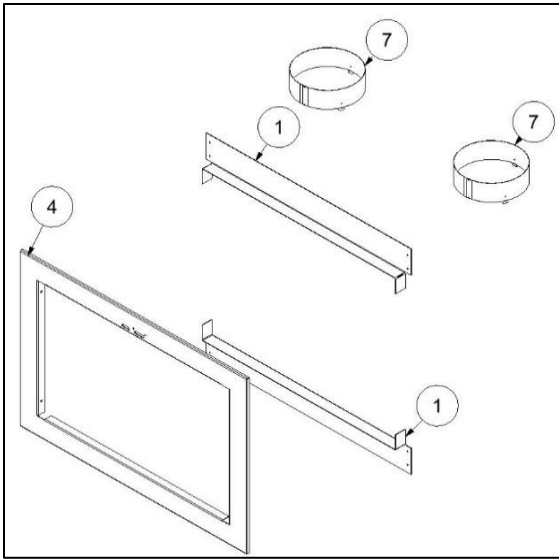
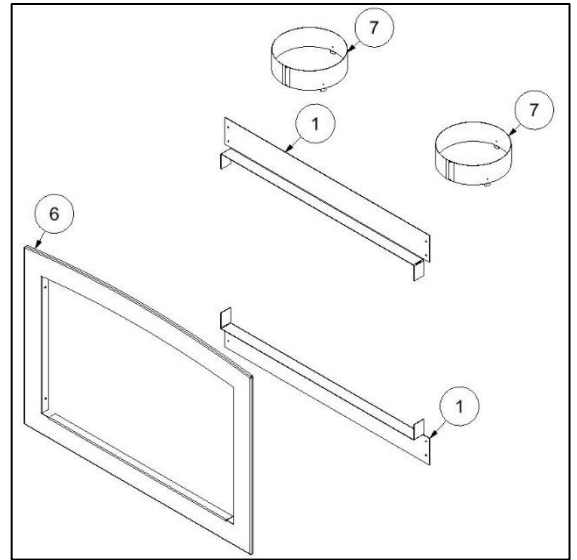
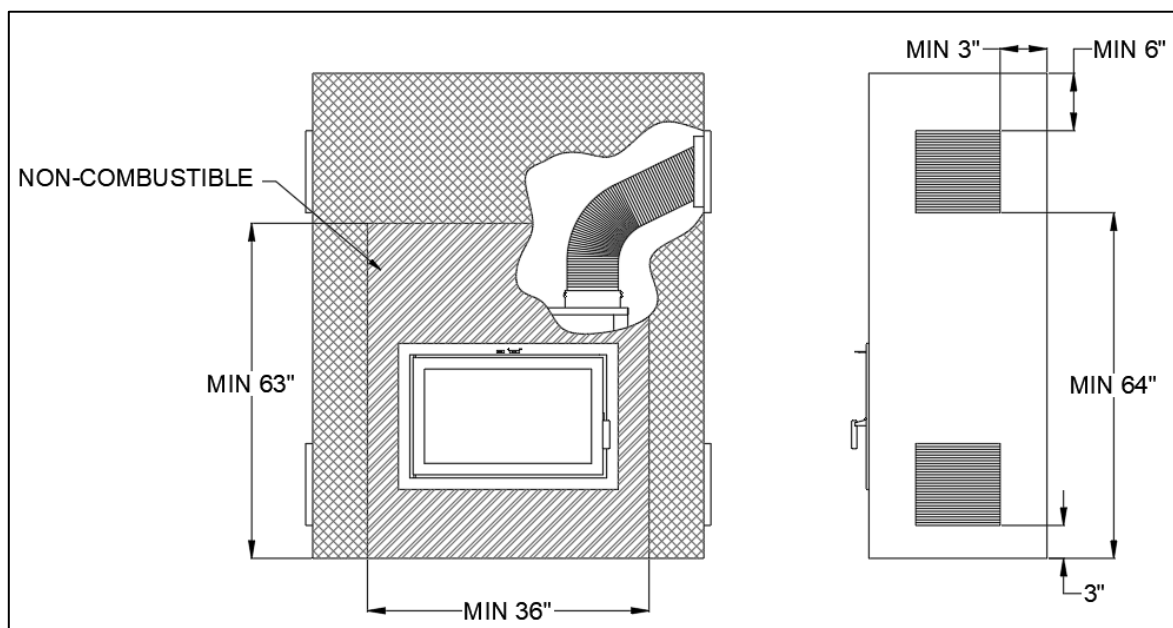

Figure 3-15: Clean Face Rectangular Surround Components
Figure 3-16: Clean Face Arched Surround Components
Figure 3-23: Clean Face Chase
The Clean Face surround comprises no louvers; however, an intake into the chase and an outtake through gravity ducts is required for this configuration. The instructions below describe the installation of the Clean Face surround. Refer to Figures 3-15 and 3-16 and Tables 3-4 and 3-5 for the instructions below. Refer to Section 3.4 for Gravity Kit installation instructions.
4. Place the surround (Item 4 in Figure 3-15 or Item 6 in Figure 3-16) within the door holder and secure it in place with 4 black screws (one on each corner). Make sure that the handles of the Combustion Air Control pass through the slots of the surround.
10. Install the 8 inch duct adapters (Item 7 in Figures 3-15 and 3-16) through the newly cut knockouts and screw them to the bent tabs (Figure 3-19).
1. Remove the two 8" knockouts (2) at the top of the unit using a flat head screwdriver.
3. Install the 8 inch flange adapters (Item 7 in Figures 3-15 and 3-16) through the newly cut knockouts and screw them to the top of the unit. Make sure to bend the tabs of the adapters before installation.
4. Determine the two locations of the air intakes on the chase and cut a rectangular opening 10.5" (W) X 9.5" (H). Note that a distance of 3" is required from the floor.
5. Determine the two locations of the air outtakes on the chase and cut a rectangular opening 10.5" (W) X 9.5" (H). Note that a minimum distance of 64" is required from the floor and a minimum of 6" is required from the ceiling (Figure 3-23). Please note that the air outtake grilles can be installed in the same room or in different rooms from each other. If the grilles are installed at different heights, more heat will be distributed to the highest one.
For the Clean Face surround option, two intake and two outtake openings must be constructed onto the chase. Refer to Figure 3-23 for minimum clearances.